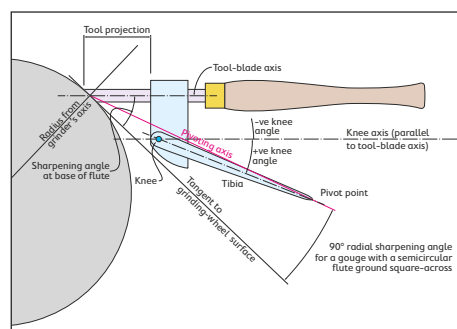
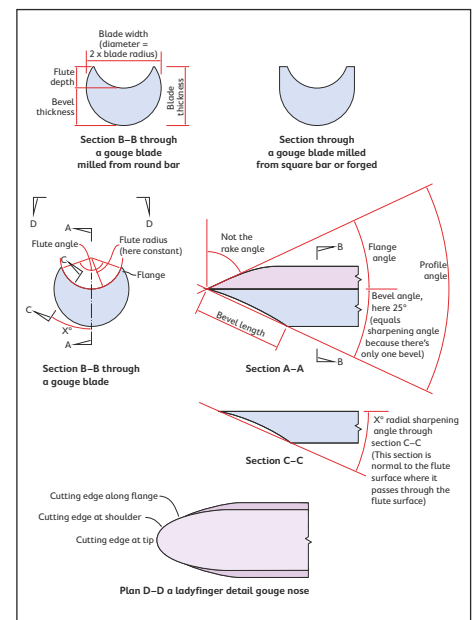

Fig.6 Pivoting-jig geometry
Fig.7 Detail gouge geometry
Today's pivoting jigs (**Fig.6**) are derived from the Jerry Glaser joystick (**photo 4**). As with the handle-end jig, the pivoting jig should yield bevels with almost polished surfaces. Also, if provided with the necessary scales and used with a constant-diameter CBN wheel, bevel geometries can be repeatably ground if the necessary settings are recorded. With an aluminium-oxide grinding wheel, which wears down in diameter, the jig has to be set from the tool bevel for each regrinding, which is slow and inaccurate.
Because the pivot point (see **Fig.6**) of a pivoting jig cannot be positioned along the blade axis, the radial sharpening angle, defined in **Fig.7**,
From **Fig.6** you can see that the larger the positive knee angle, the more the radial sharpening angle decreases towards the tops of the flanges.
9). Ideally the radial sharpening angle (see **Fig. 7**) should be constant around the whole flute. This is impossible with the ladyfinger nose unless the flute is very shallow. There are several methods which can be used to grind a ladyfinger nose:
The ideal blade cross-section for larger sizes (**Fig. 7**, section B-B) cannot be scaled down too much because the resulting blade will flex in use and catch. One solution shown in **photo 13** is to grind a ladyfinger nose on a bowl gouge which has a flute with a small radius at the bottom of the flute.